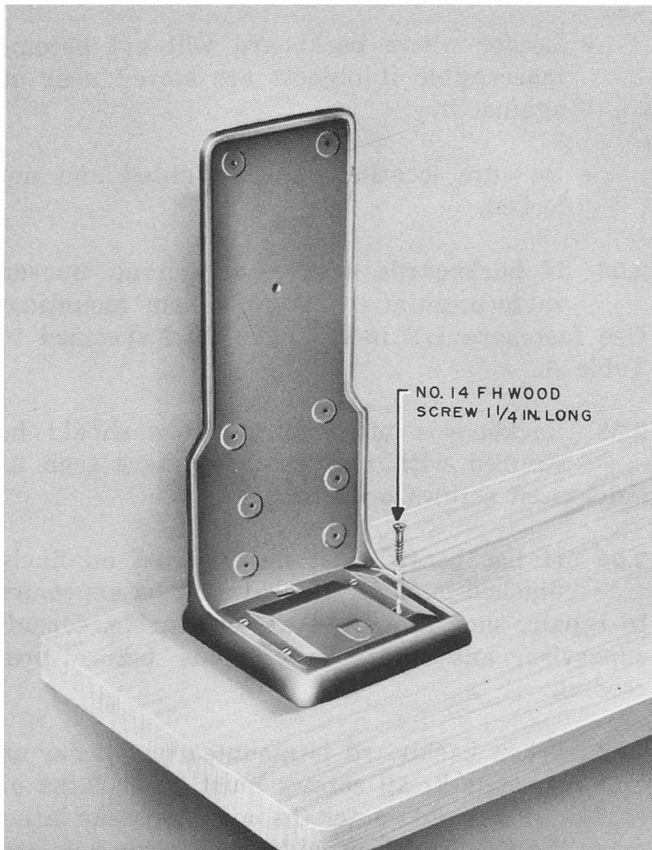

Fig. 2 — 139A Backboard Mounted on Wooden Counter
2.08 The 139A backboard is designed for mounting a coin collector on a horizontal surface (see Fig. 2). If more secure attachment is desired, 1/4-inch carriage or step bolts should be used. Place heads of bolts on underside of support, tighten nuts, and cut off excess length of bolts.